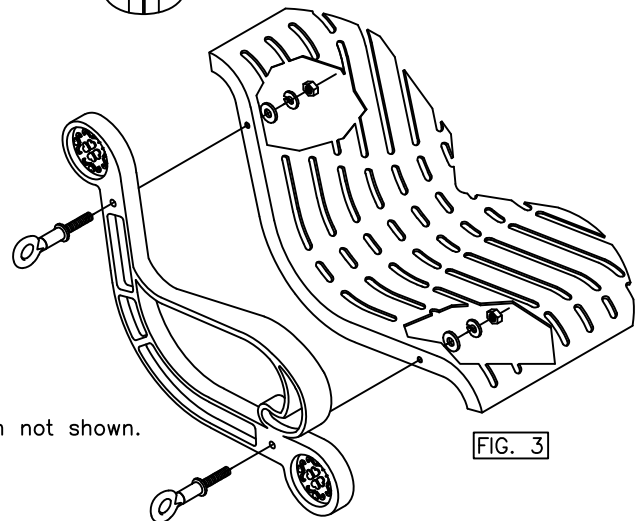

FIG. 3
Support the bench (A-) at least 4" off the ground. Align holes of the bench frame/mounting bracket to the holes in the arm (F), see Fig. 3. Insert the eyebolts through arm and bench frame and secure with flat washers and nuts provided on eyebolts. NOTE: Be sure the spacer tube is on the chain side of the leg. The eyebolt with 49 links goes to the front of the bench. After securing the chain to the bench, front and back, raise one end of the bench, bolt the swivel casting to the clevis fixture on arch (D) and (E) or round leg assembly (B2) with bolt, washers and nut provided, see FIG. 4.
NOTE: EYE BOLT NEEDS TO BE IN THE VERTICAL OR IN LINE WITH THE CHAIN POSITION (SEE FIG 3).